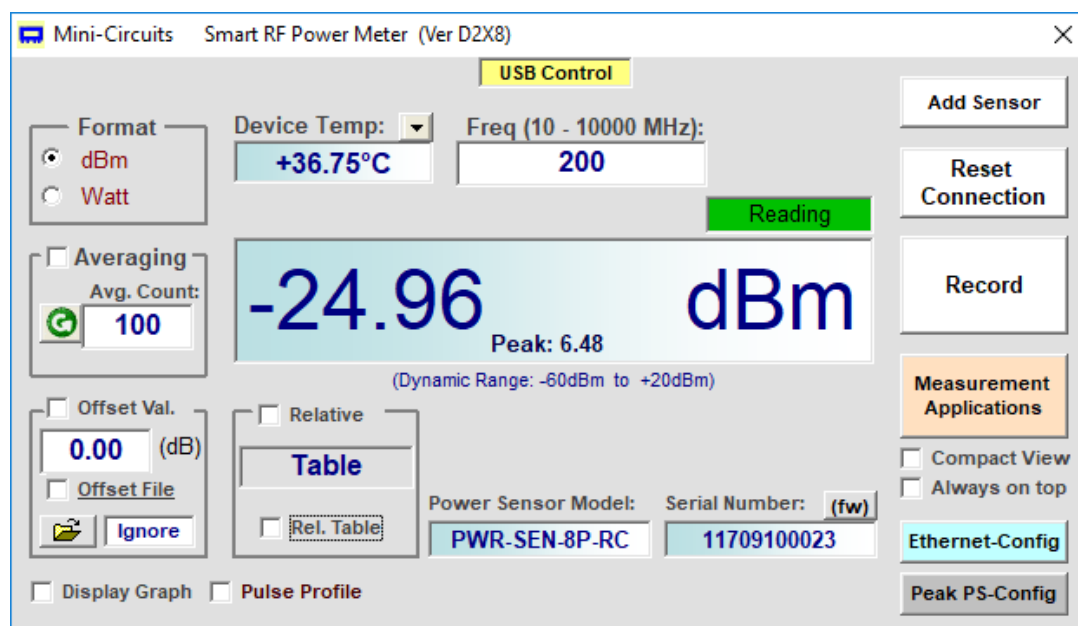

Figure 3.3.5: Peak Power Sensor Main Screen
3.3.5 Peak power specific functions (Fig. 3.3.5)